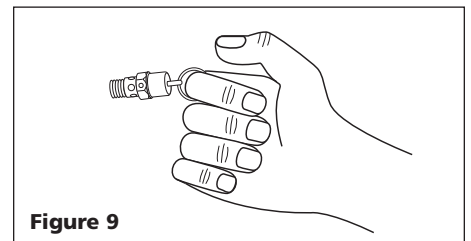

Figure 9
1. Pull ring on safety valve and allow the ring to snap back to normal position (see Figure 9). This valve automatically releases air if the tank pressure exceeds the preset maximum.